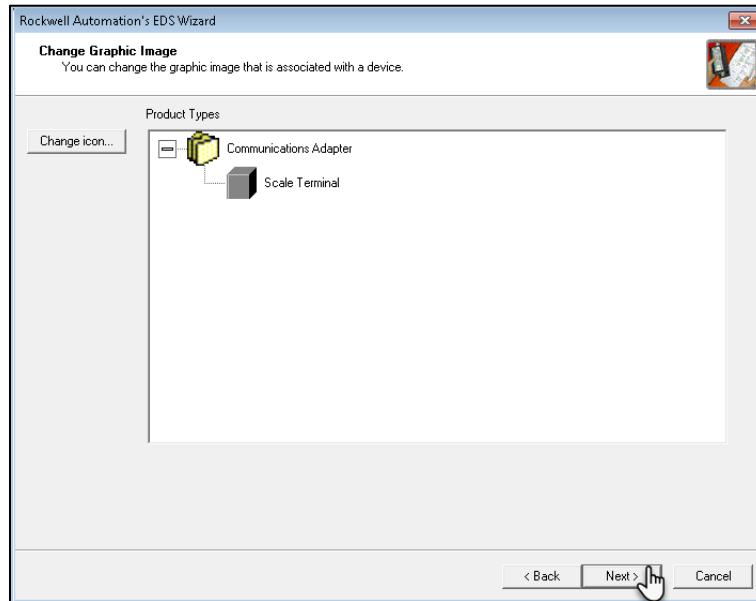

Figure 14: EDS File Device Image Change Screen
- Click on next again unless you need to change the graphic image associated with the device (see **Figure 14**)